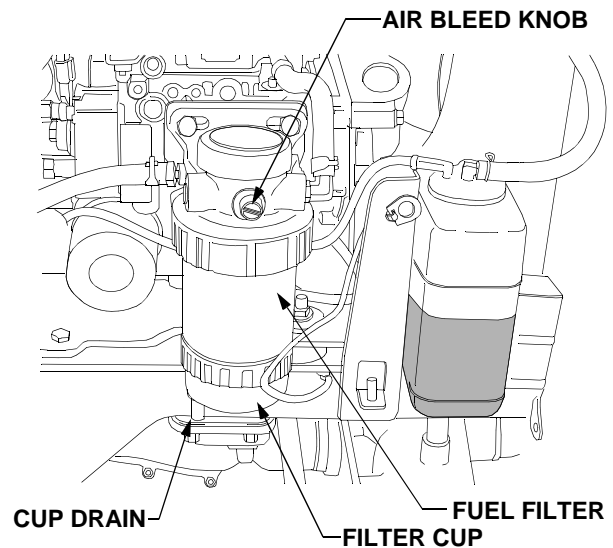

Figure 57
The tractor is equipped with an in-line fuel filter located on the *right* side of the engine. Regularly check the cup at the bottom of the fuel filter for condensate water that has separated from the diesel fuel (Refer to Figure 57). Drain the filter cup as needed, or after every 100 hours of operation. Replace the fuel filter after every 600 hours of operation.
- Place a suitable container beneath the filter cup. See Figure 57.
- Slowly turn the air bleed knob counterclockwise until fuel refills the filter cup and begins to seep out around the bleed knob. Turn the air bleed knob clockwise to close. Refer to Figure 57.